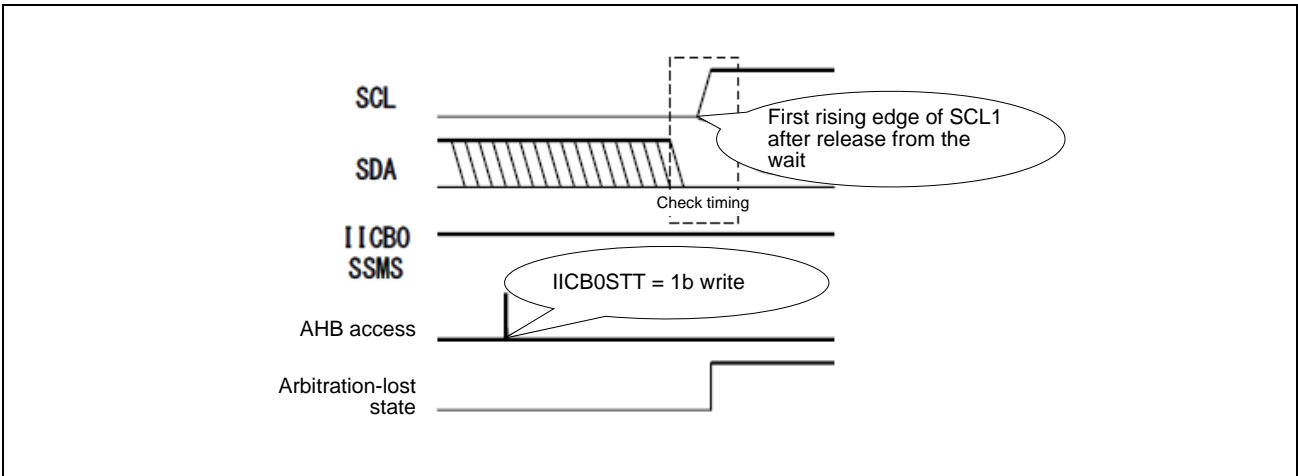

Figure 29.6-13 Arbitration-Lost State in (9)
**Figure 29.6-13** shows the arbitration-lost state in (9).